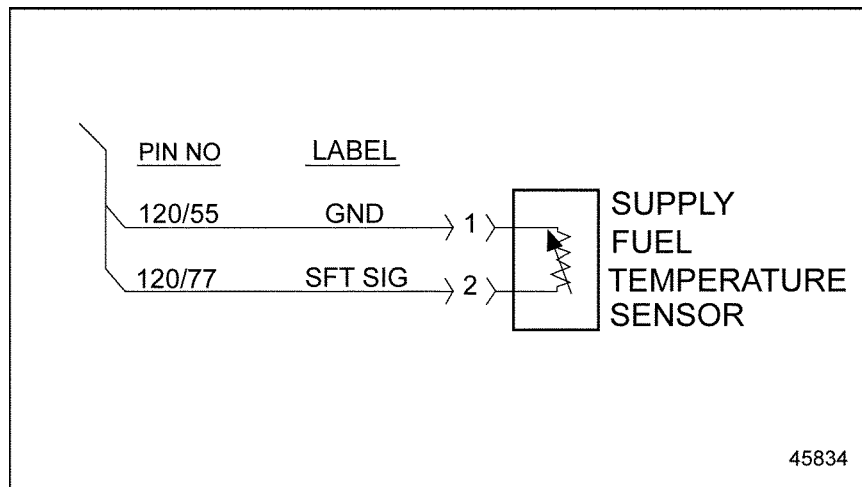

Figure 34-1 Supply Fuel Temperature Sensor
6. Measure the resistance across pins 1 and 2 of the SFT Sensor. See Figure 34-1.